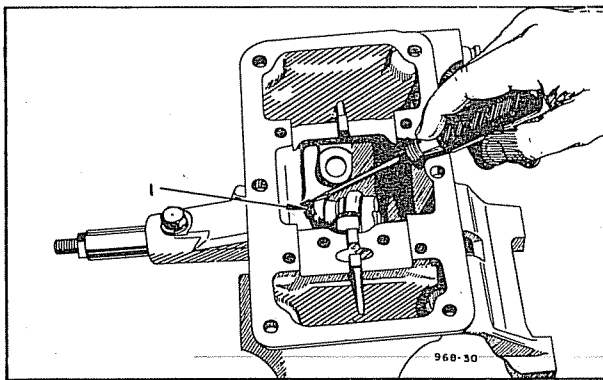

Fig. 9—Removing Gearshift Lever Lock Pin Spring.
- (6) With a screwdriver, remove the gear shift lever lock pin spring, as shown in Figure 9.